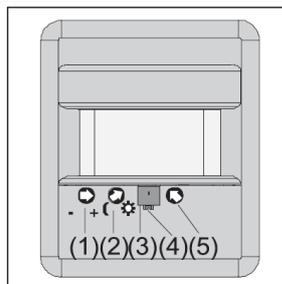

Figure 20
As an alternative, the stored brightness threshold will be erased once potentiometer (2) is offset approx. half a turn (Fig. 20).